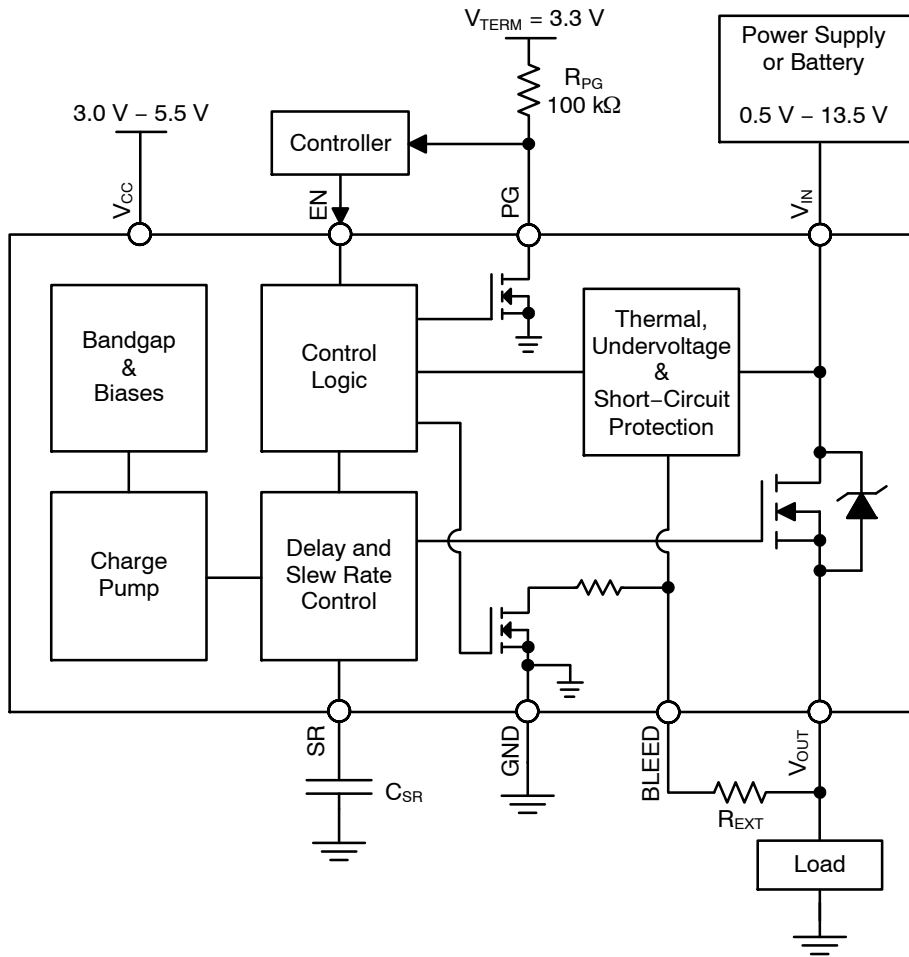
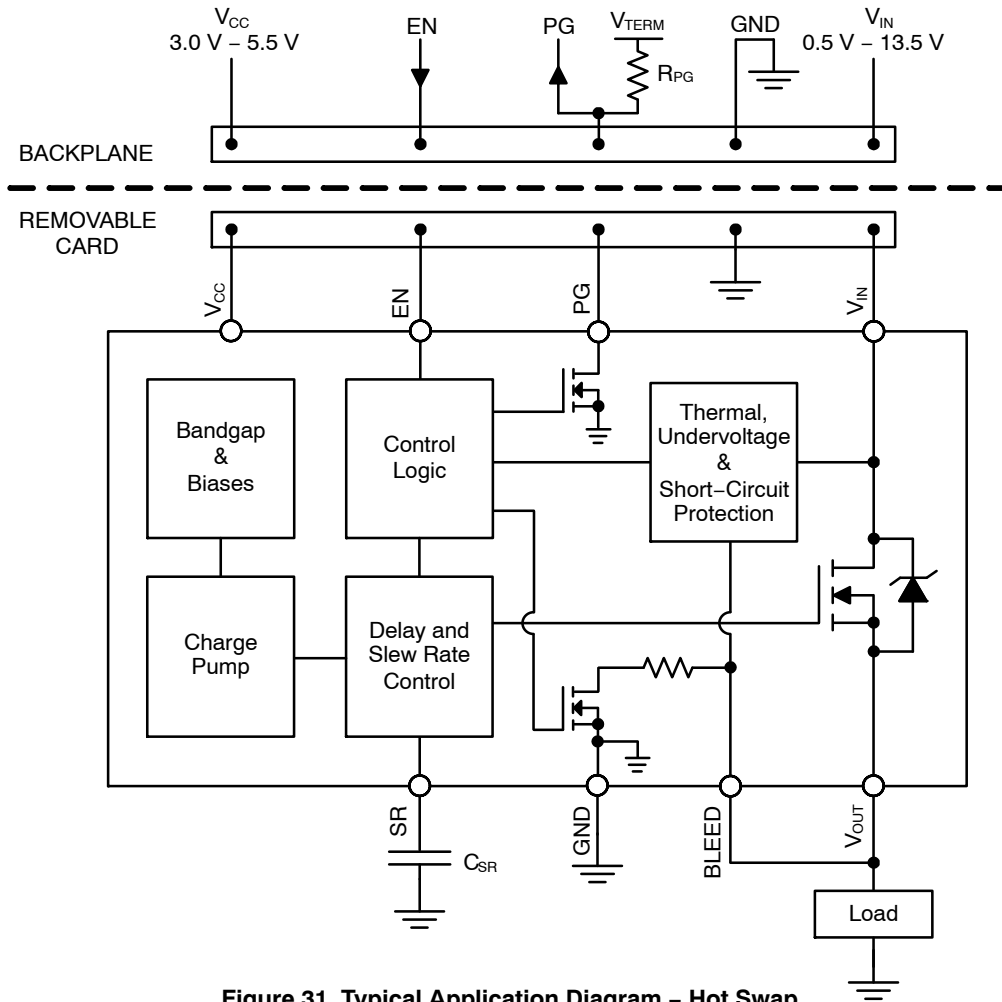

Figure 30. Typical Application Diagram - Load Switch
Figure 31. Typical Application Diagram - Hot Swap
It is required that the BLEED pin be connected to  $V_{OUT}$  either directly (as shown in Figure 31) or through an external resistor,  $R_{EXT}$  (as shown in Figure 30).  $R_{EXT}$  should not exceed 1 k $\Omega$  and can be used to increase the total bleed resistance.
The NCP45560 devices have a power good output (PG) that can be used to indicate when the gate of the MOSFET is fully charged. The PG pin is an active–high, open–drain output that requires an external pull up resistor,  $R_{PG}$ , greater than or equal to 1 k $\Omega$  to an external voltage source,  $V_{TERM}$ , compatible with input levels of other devices connected to this pin (as shown in Figures 30 and 31).
The slew rate can be decreased with an external capacitor added between the SR pin and ground (as shown in Figures 30 and 31). With an external capacitor present, the slew rate can be determined by the following equation:
Once active, the circuitry monitors the difference in the voltage on the  $V_{IN}$  pin and the voltage on the BLEED pin. In order for the  $V_{OUT}$  voltage to be monitored through the BLEED pin, it is required that the BLEED pin be connected to  $V_{OUT}$  either directly (as shown in Figure 31) or through a resistor,  $R_{EXT}$  (as shown in Figure 30), which should not exceed 1 k $\Omega$ . With the BLEED pin connected to  $V_{OUT}$ , the short–circuit protection is able to monitor the voltage drop across the MOSFET.